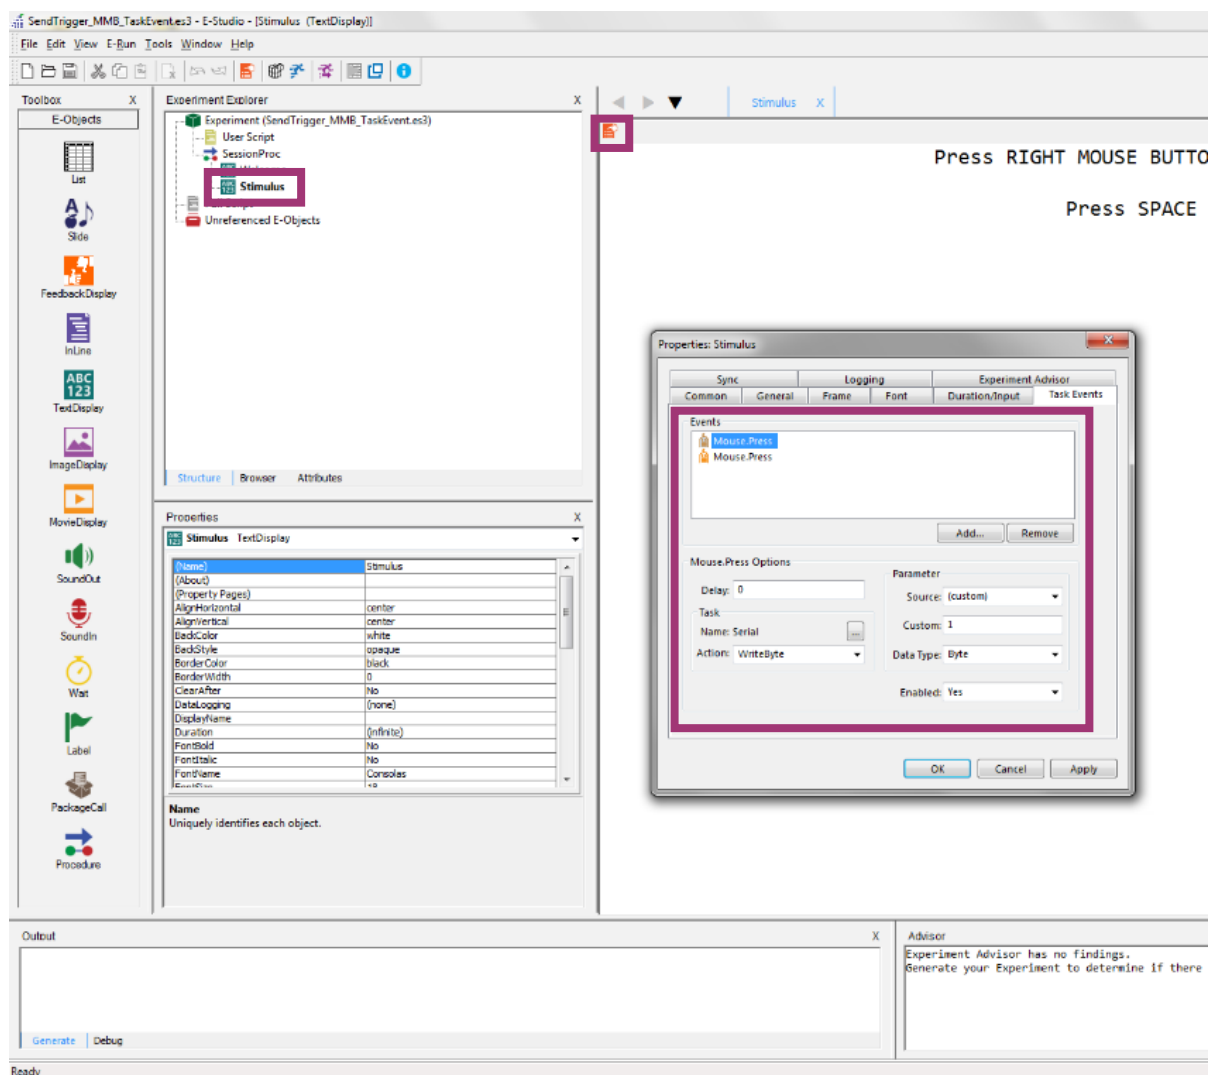

Figure 12: E-Prime Task Event Settings Window
When working with any E-Objects in E-Prime, sending trigger markers is set in the settings window of the corresponding E-Object. The settings for each E-Object in E-Prime is accessible via the orange button on the top left of the block (Figure 12). Make sure that the MMBT-S is connected to your computer via the USB cable and the appropriate device settings under **Edit > Experiment... > Devices > Serial (add device if needed)** are set. In the sample experiment below (Figure 12), two events were added when the mouse of the computer is clicked. Both events send a trigger marker "1" (trigger pin 1 goes HIGH).
**Please note:** if the MMBT-S is set to Simple Mode, make sure to use two Events. The first Event sets the according pin to HIGH (i.e. "sends a trigger") and the second event to brings all pins to LOW again (i.e. "stops the trigger"), as in the example above (Figure 12). Read chapter 2.3 for more information on the different Runtime Modes.